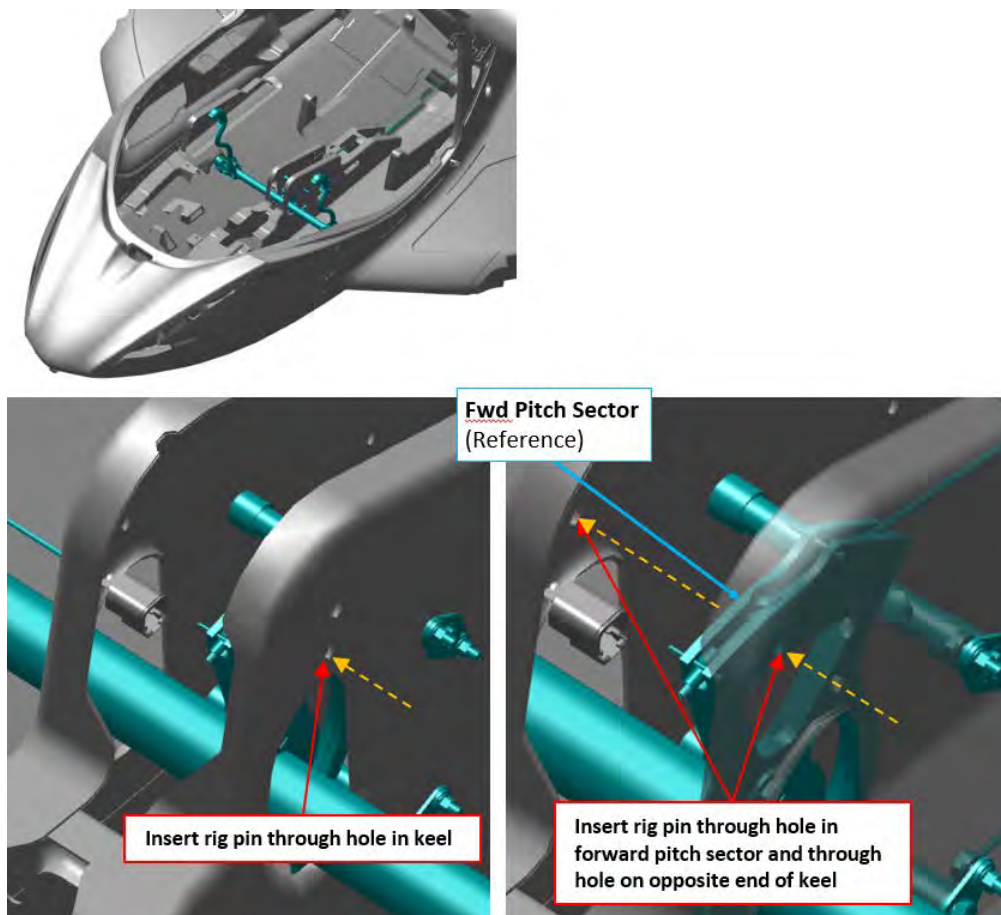

FIGURE 10-14
7. Install .250" diameter rig pin through the center console and forward pitch sector prior. See Figure 10-14.